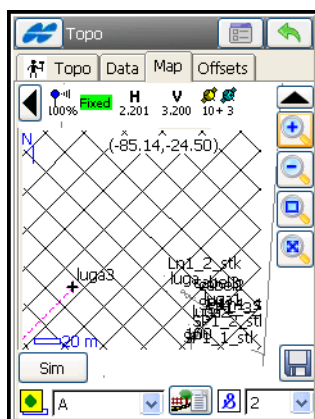

Figure 9-20. Grid in Map
- The ok  button – displays the grid on the *Map* tab (Figure 9-20) with the specified settings.